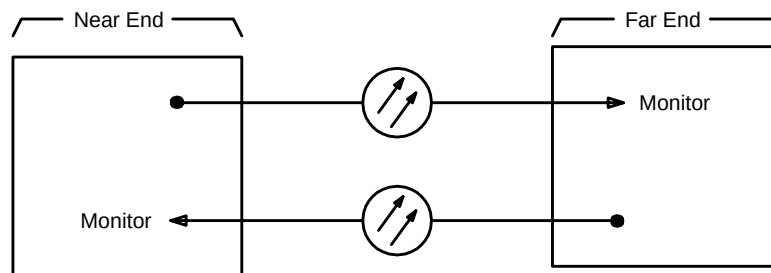

Figure 9-20. Optical Span Test
3. **Optical Span Test** — The optical span test verifies the end-to-end transmission across an optical span. In this test, the OC-3 signals are monitored at both ends of the optical span and the results reported back on the same line using the line overhead. Loopbacks are not required (see Figure 9-20).